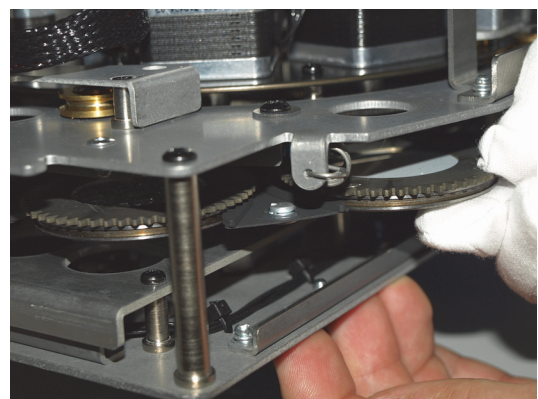

Figure 21: Gobo removal
6. See Figure 21. Grasp the goboholder by its edge and pull it out of its clip to remove it from the wheel.